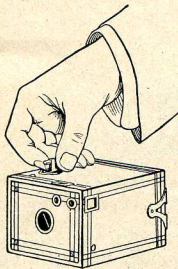

FIG. 1.
1. Take a position at a table as far as possible from any window, place the camera on the table before you and pull out on the winding key as shown in Fig. 1.